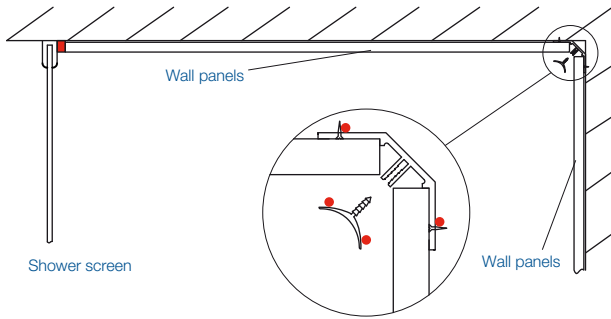

Fig B1 Panelling a shower after the enclosure is fixed using an internal corner section
- 5 Refer to *fig B1* - measure for panels allowing 2mm expansion gap at each vertical edge.